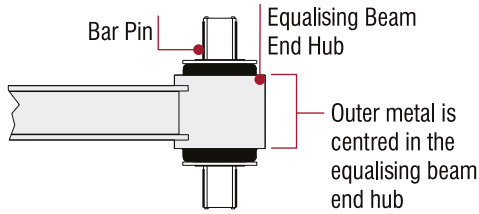

Figure 36: Centred Bush in Beam End
6. Install the end bush into the end hub by pressing on the installation tool until the installation tool contacts the end hub. This will centre the bush in the end hub, refer Figure 36.